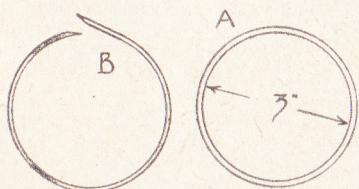

Fig. 2—The rings
The rings may be bought at a toy or sport shop. They are of rubber, about the best material for such a purpose, being silent in action. If any difficulty is experienced in getting these rings, then it is not a great matter to make a set for oneself. They can be cut from plywood, with an internal diameter as at (A) in Fig. 2, and external one of 3½ ins., not more. These are, however, rather noisy when striking the board, and a good plan to silence them is to wind a thin cord or twine round them.